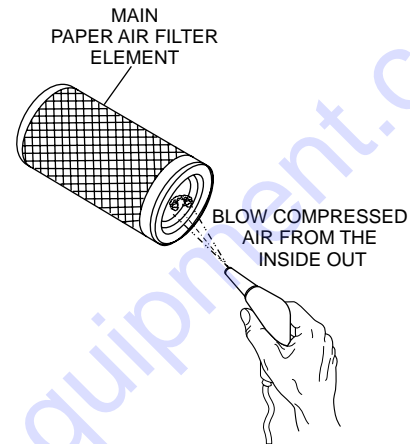

Figure 39. Cleaning Paper Air Filter Element
5. To clean the main element (paper air filter) as referenced in (Figure 39), tap the filter element several times on a hard surface to remove dirt, or blow compressed air (not to exceed 30 psi (207 kPa, 2.1 kgf/cm²) through the filter element from the inside out.